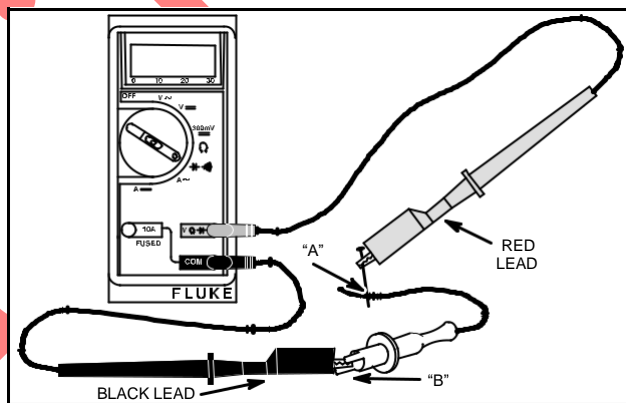

Fig. 15 – Testing Diode
4. Attach RED test lead clip to point “A” and Black test lead clip to point “B,” Fig. 15. (It may be necessary to pierce wire with a pin as shown.)